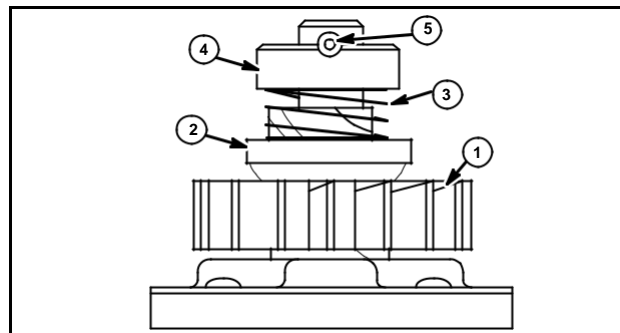
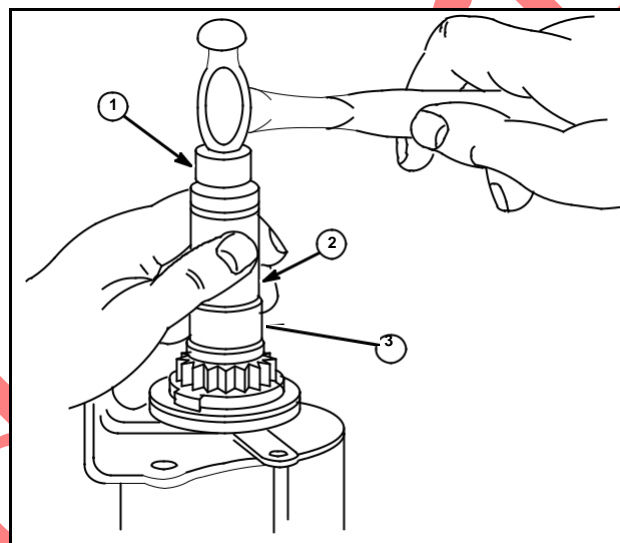

Fig. 66
Fig. 67
1. Assemble pinion gear with beveled edge on the gear (1) up as shown in Fig. 66.
2. Assemble cup (2) and spring (3) on gear if original assembly was so equipped, and fit retainer (4) on shaft.
3. Drive new roll pin (5) through retainer slot and armature shaft hole. The roll pin should be centered in shaft within 1/32" (.8 mm). Assemble with new roll pin only.
5. To install plastic cap, fit a socket (2) over the plastic cap (3) and tap gently (1) as shown in Fig. 67.